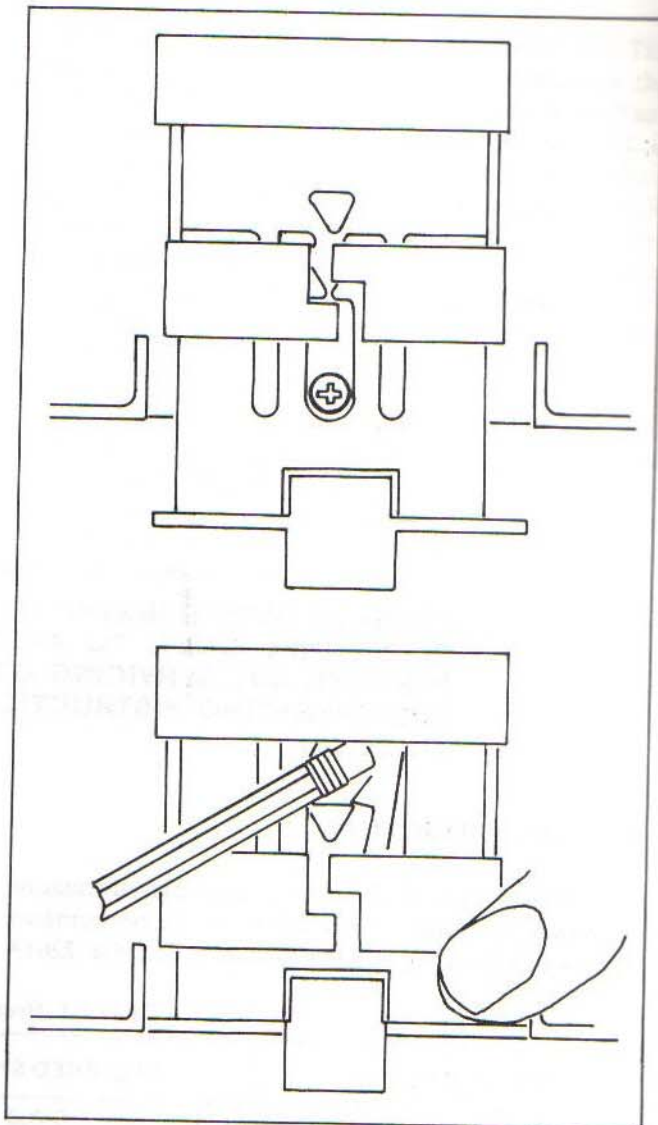

Figure 4-1. Disassembly Screw Access
2. On the case bottom, remove the six securing screws. Two of these screws will be found in the middle of the case, under the latches. To access either middle screw, as shown in Figure 4-1, alternately push the two latching rails away from the triangular stop. Pull the latch out far enough to reveal the screws.